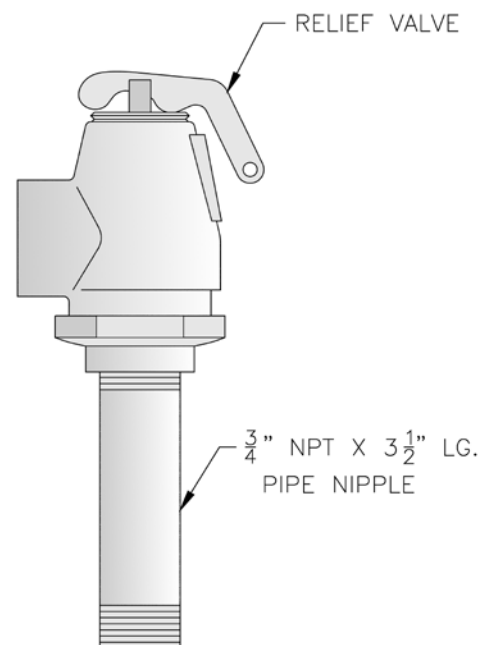

Figure 16: Safety Relief Valve Installation
C. Install Safety Relief Valve. See Figure 16.